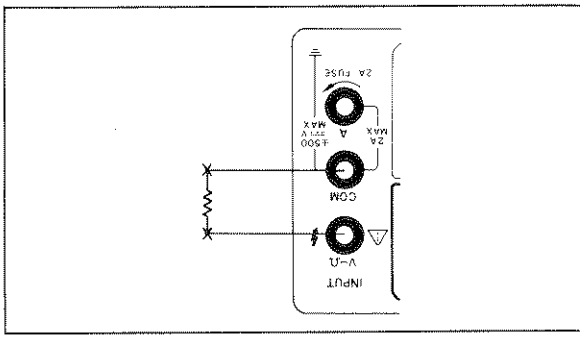

Figure 3-11. Resistance Measurement.
- c. Connect test leads from the Multimeter V $\Omega$  (+) and COM (-) terminals to the resistance under test as shown in Figure 3-11.